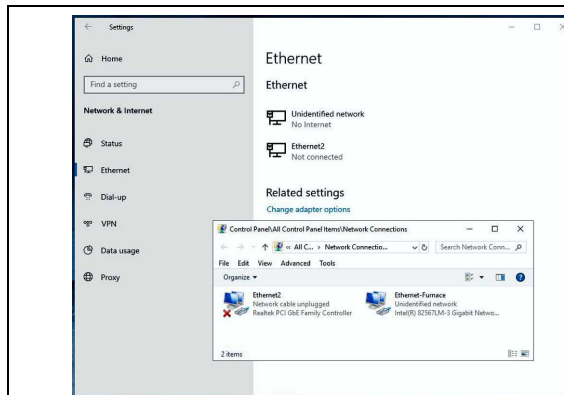

Figure 3-10 Select Select Ethernet-Furnace
- b. From Network Connections window, select Ethernet-Furnace, the connection that corresponds to the furnace network (it may say “Unidentified network, No Internet”), Figure 3-10.